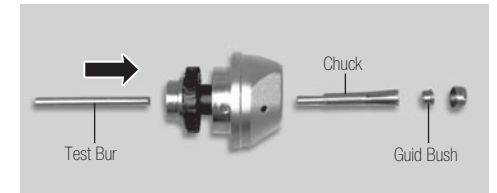

Fig. 19
- 3) When the Rotor Nut is loose, push out the chuck carefully with the bur blank or the shank of the bur from the back of the cartridge, the guide-bush and the chuck will come out. (Fig. 19)